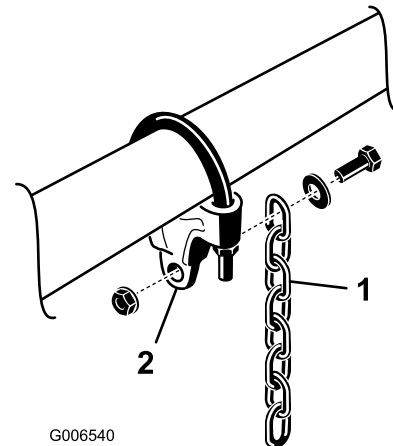

Figure 7
- Mount a lift chain to each chain bracket with a screw, washer and nut, positioning as shown in Figure 7.